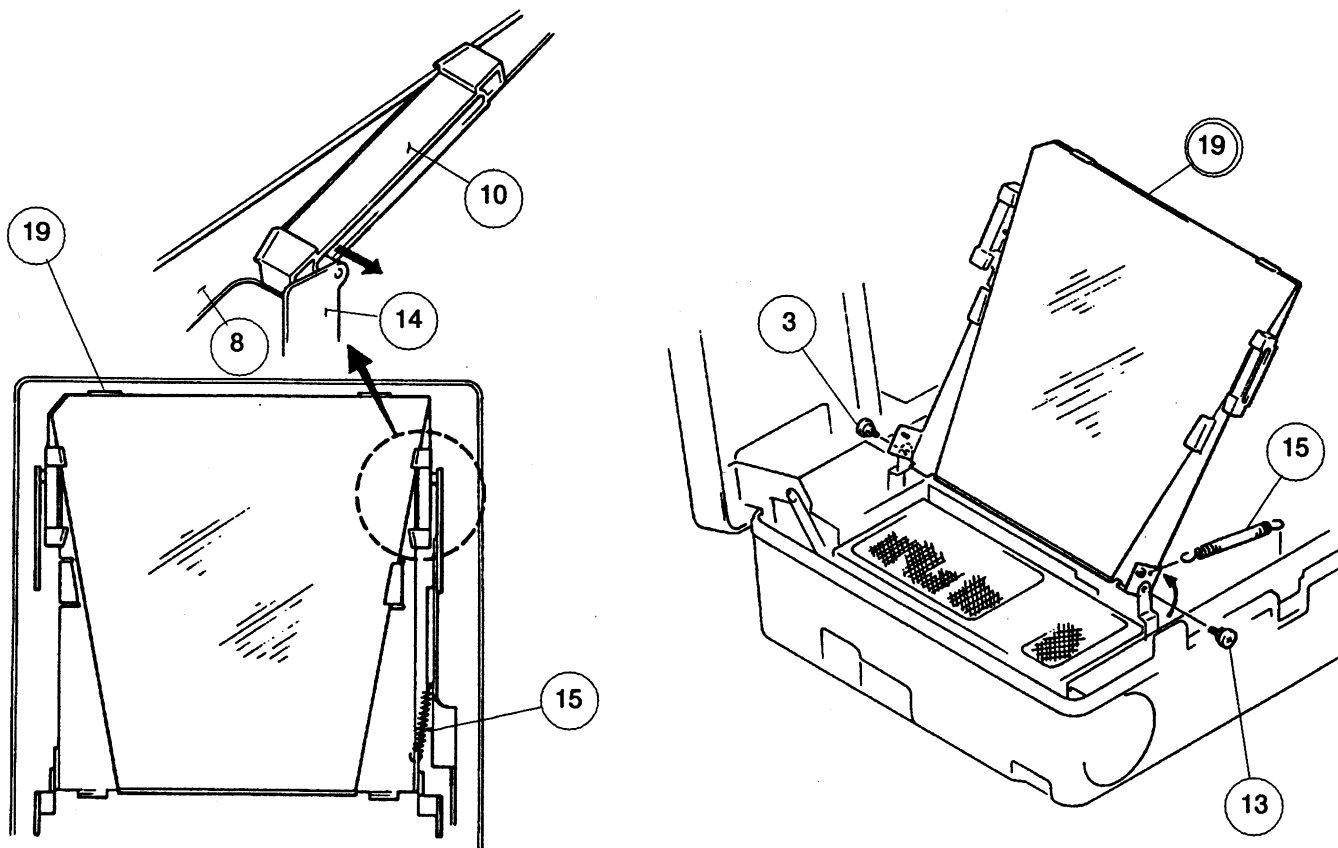

Figure 7
1. Unhook the reflector holder spring (15). (Fig. 7)
3. Using your thumb, pry the guide pin (14) from the reflector holder guide (10). Perform the same procedure on both sides of the reflector holder (19). (Fig. 7)
4. Raise the reflector holder (19) as it is shown in figure 7 and place the projector in a semi-folded state.
5. Remove the two screws (3 and 13) that secure the reflector holder (19). (Fig. 7)